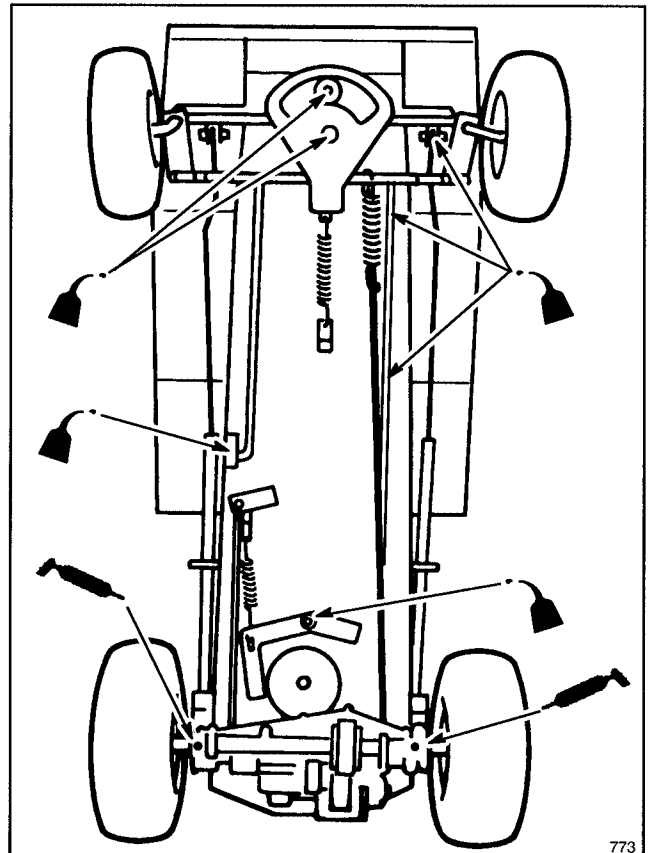
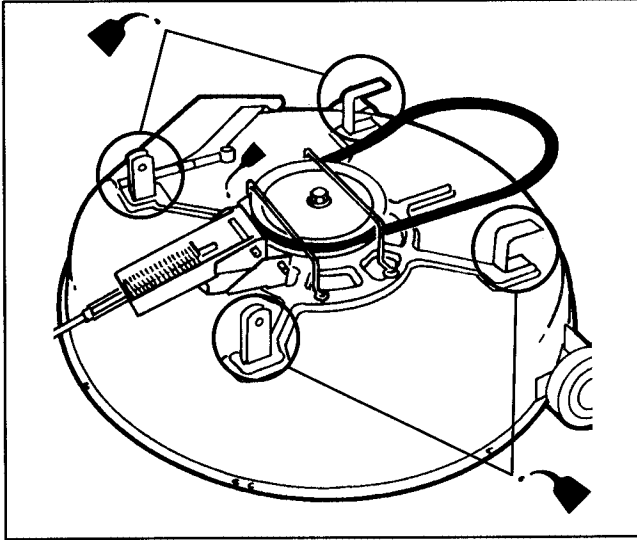

Figure 14
Figure 15
4. Lubricate rear axles with one to two pumps of No. 2 general purpose grease. The zerks are located just inside of the rear tires on the bottom of the trans-axle (Fig. 14).
7. Lubricate pivot points in the steering, drive, brake, clutch, and deck engagement linkage with light oil (Fig. 14). Also lubricate mower housing (Fig. 15). Wipe up any excess oil.